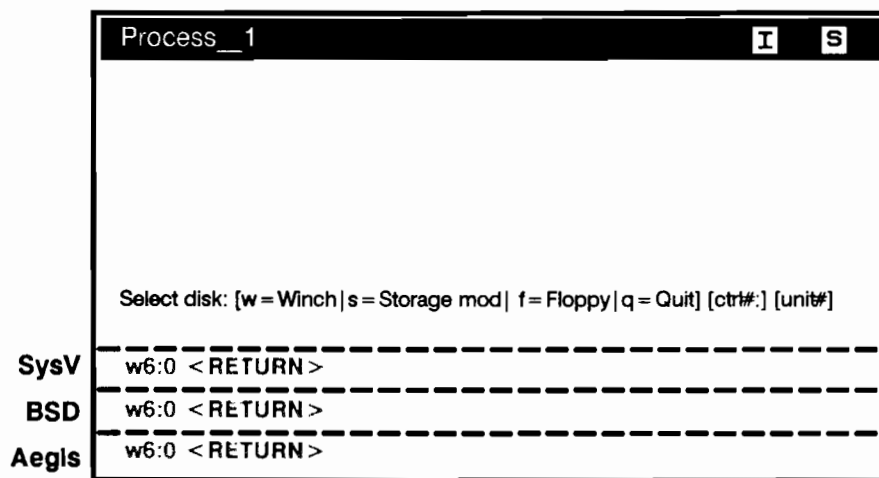

Figure 3-45. *invol* Prompt for Primary Disk in Set
11. The **invol** utility prompts for the identity of the first disk in the multidisk set as shown in Figure 3-45.